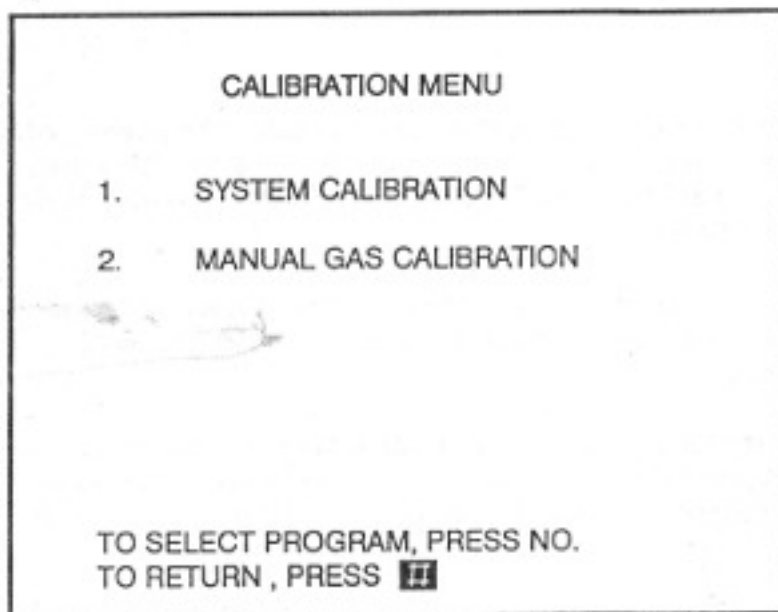

FIGURE 11. If an emissions module is installed, this page appears when selection four is made on the PROGRAM MENU page.
- b. If the emissions module is installed, a CALIBRATION MENU page(Figure 11) will be displayed. The menu contains a selection of gas calibration or the above mentioned system calibration.(press 1 or 2 for selection)